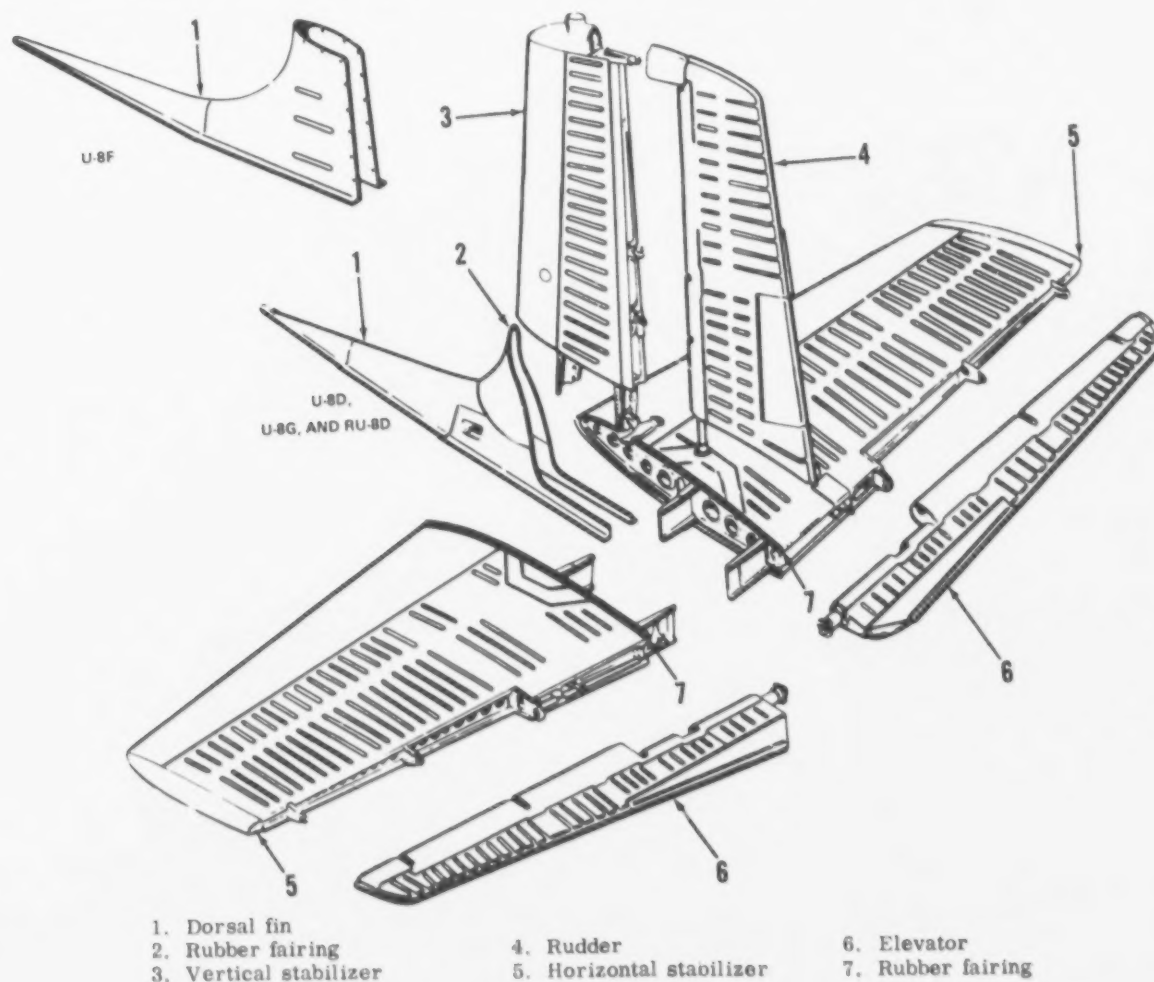

Figure 4-30. Empennage installation
4-230. The empennage (figure 4-30) consists of the dorsal fin, horizontal stabilizers, vertical stabilizer, elevators, and rudder. The elevators and rudder have variable incidence and are discussed with the other moveable flight controls. (Refer to Chapter 9, Section II.)
4-232. The dorsal fin (1, figure 4-30) is located on the tail section of the fuselage just forward
4-234. The horizontal stabilizers (5, figure 4-30) consists of ribs and spars covered by an aluminum alloy skin. The spars that protrude on the inboard end of each horizontal stabilizer are attached to the fuselage structure in the tail section. The brackets for attaching the elevators (6) are mounted to the rear spar of each horizontal stabilizer. Rubber fairings (7) are installed to seal the opening between the fuselage skin and the inboard edge of each horizontal stabilizer skin.
b. Inspection. (1) Inspect horizontal stabilizers for cracks, dents, holes, loose or missing rivets, and security of attachment.
(2) Inspect brackets on trailing edges of horizontal stabilizers for cracks, dents, bends, and security of attachment.
(3) Inspect rubber fairings for deterioration and security of attachment.
4-236. The vertical stabilizer (3, figure 4-30) consists of ribs and spars covered by an aluminum alloy skin. The spars that protrude on the lower end of the vertical stabilizer are attached to the fuselage structure in the tail section. The brackets for attaching the rudder (4) are mounted on the rear spar of the vertical stabilizer.
b. Inspection. (1) Inspect vertical stabilizer for cracks, dents, holes, loose or missing rivets, and security of attachment.
(2) Inspect brackets on trailing edge of vertical stabilizer for cracks, dents, bends, and security of attachment.